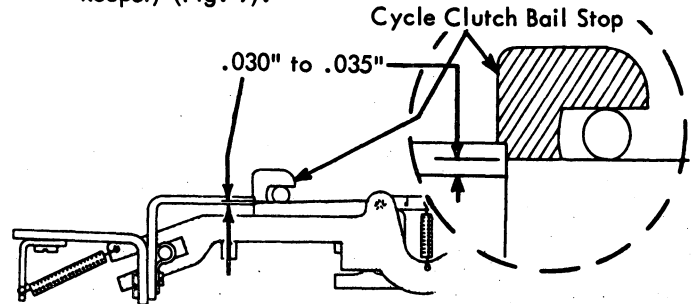

FIGURE 9. Cycle Clutch Latch Pawl Bite Adjustment
9. **Cycle Clutch Latch Pawl Bite - Adjust the cycle clutch bail upper stop to provide .030" to .035" bite between the latch pawl and its keeper (1/2 the thickness of the keeper)** (Fig. 9).